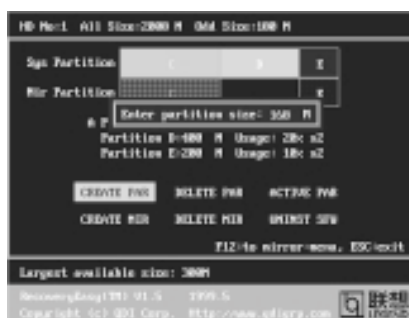

figure-2 Create Partition
- b. If answering “Y”, input the new partition size in Megabyte. Notice that the maximum partition size that can be assigned is half of the left disk space, which is also displayed in the status line. Another half is for the mirror partition. If answering “N”, the whole disk space left can be assigned. See figure-2.